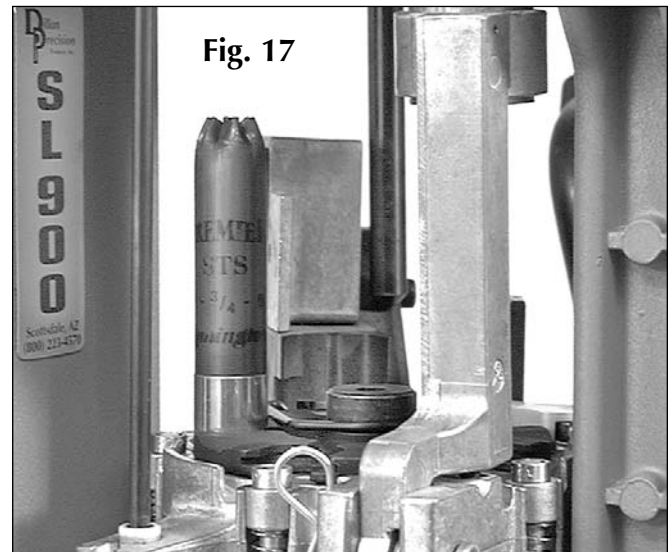

Fig. 17
19. Using the same hull with shot in it in Station 4, move the roller handle down and then back to its rest position, the formed and folded hull has just completed Station 4 and has advanced to Station 5. **Fig. 17**